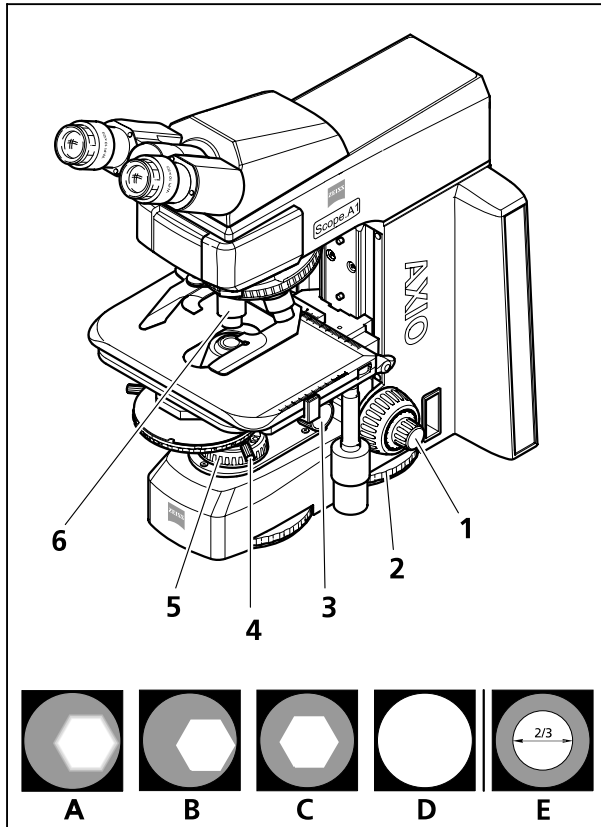

Fig. 4-1 Microscope adjustment in transmitted light/bright-field
(3) Adjusting the transmitted light/bright-field according to KÖHLER
- Adjust image brightness with light intensity control (Fig. 4-1/2) on microscope stand.
- Bring front lens on condenser (if in use) into place (in objectives $\geq 10x$) and turn the gear knob for vertical adjustment of the condenser (Fig. 4-1/3 and Fig. 4-2/2) to the top stop. Make sure the stop is adjusted in a way to prevent the condenser from lifting out the sample (adjusting the condenser stop, chapter 4.1.1 (4)).
- Bring objective 10x in place on nosepiece (Fig. 4-1/6) and focus sample with gear knob (Fig. 4-1/1).
- Close field diaphragm (Fig. 4-1/5) enough to make it visible in field of view (even if blurred) (Fig. 4-1/A).
- Lower condenser with gear knob for vertical adjustment until edge of field diaphragm appears sharp (Fig. 4-1/B).
- Center the field diaphragm image with both centering screws (Fig. 4-1/**4**) on the condenser carrier (Fig. 4-1/**C**). Open the field diaphragm enough to make the edge of the diaphragm disappear from the field of view (Fig. 4-1/**D**).
- In order to adjust the aperture (contrast), take an eyepiece from the tube barrel. Looking through the barrel adjust the aperture with the adjusting lever (Fig. 4-2/**4**) to the size of approx. $2/3 \dots 4/5$ of the diameter of the objective exit pupil (Fig. 4-1/**E**). In most cases this aperture gives the best contrast at almost full resolution and is thus the best compromise for the human eye.